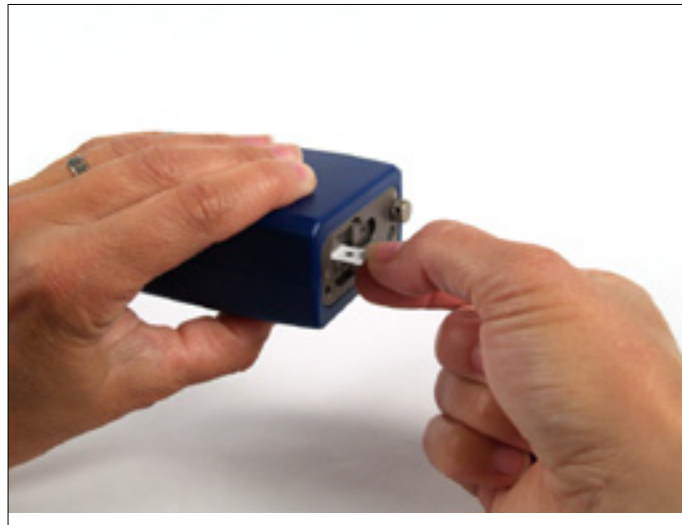

Figure 6: Inserting filter strip while depressing filter release button.
1. Hold the microAeth in your left hand so that the filter chamber release button is on the bottom of the enclosure (Figure 6) (all of the icons will be right side up) and the filter strip slot is facing you.